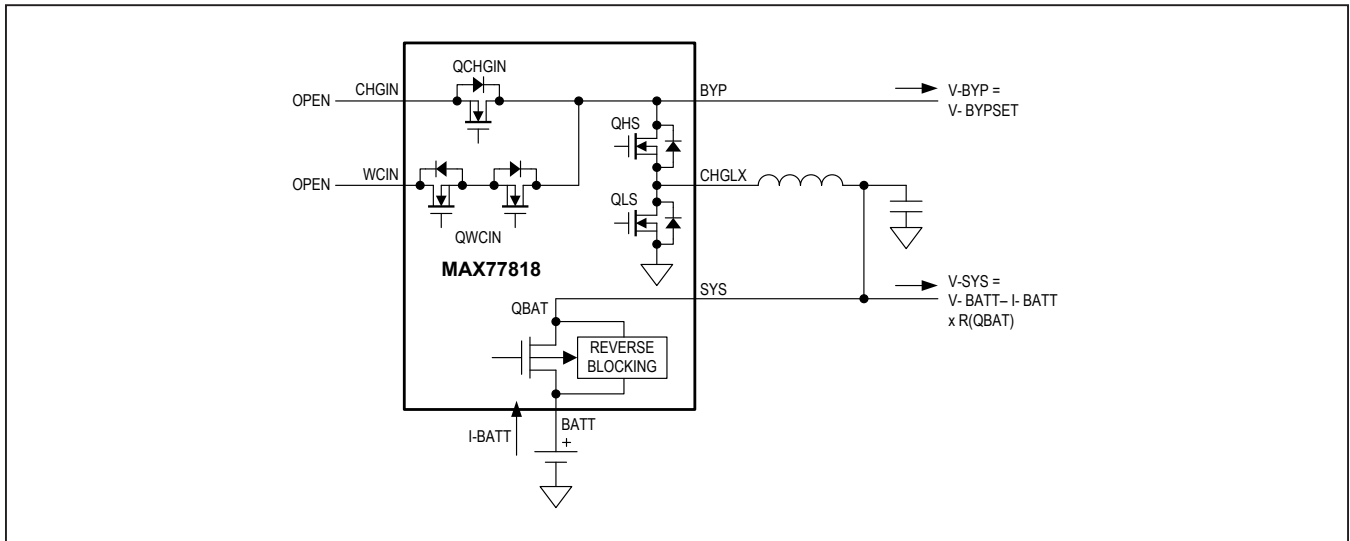

Figure 11. Battery-Boost
**Battery Boost, MODE = 0x08:** Adapter and wireless inputs are invalid, outside the input voltage operating range (QCHGIN = off, QWCIN = off). Battery is connected to power the SYS load (QBAT = on), and charger is operating in Boost mode (Boost = on). See Figure 11.